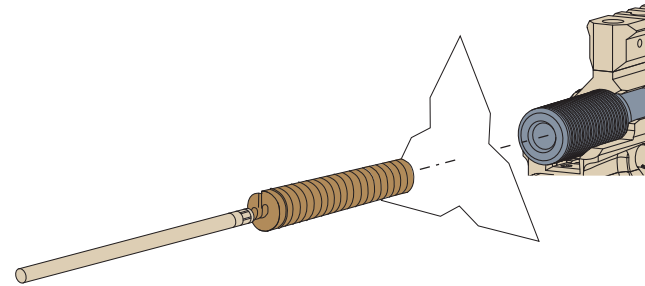
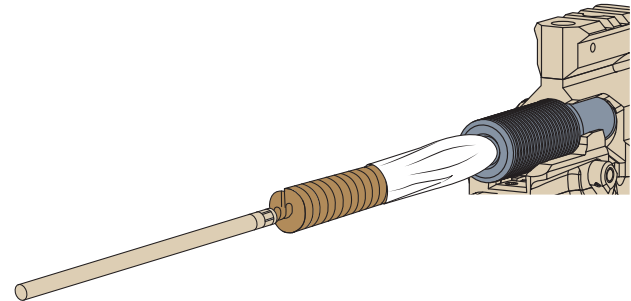

Fig 5-2
Fig 5-3
- Ensure the rod is clean before fitting a clean patch to the correct size spear point jag (see Fig 5-2 and Fig 5-3).